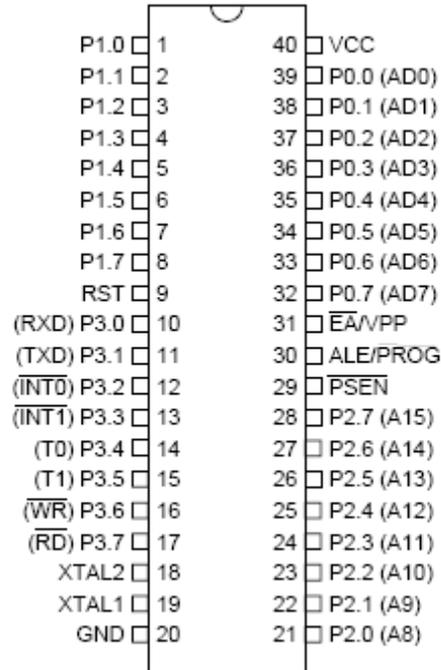

Figure 4.1 Pin Diagram of AT89C51
- The pin diagram of AT89C51 is shown in figure 4.1.